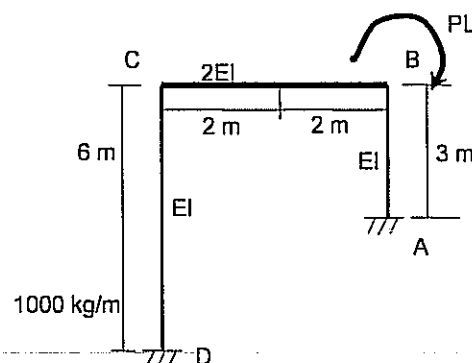

Figure Q2.
2. A frame structure shown in Figure Q2 has a moment PL acting at B (4 m).